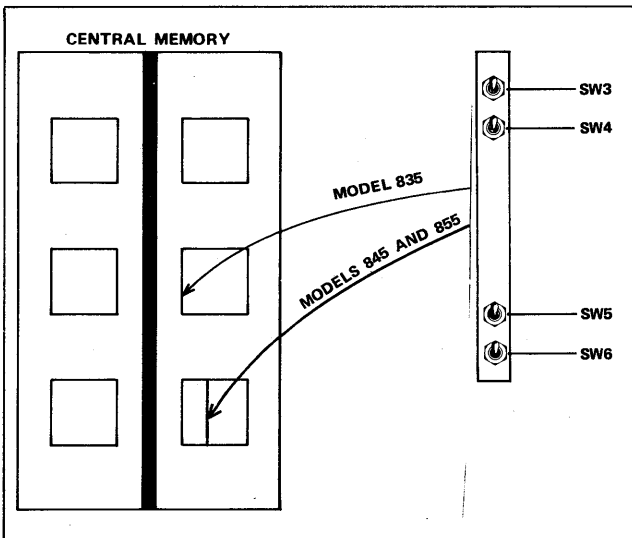

Figure 2-15. CM Configuration Switches
The central memory (CM) contains four three-position configuration switches (figure 2-15). These switches (SW3 through SW6) are located along the edge of a printed-circuit board in the right center section (model 835) or right lower section (models 845 and 855) of the CM. The switches are used to eliminate CM sections with malfunctions. When a switch is centered, normal addressing takes place. When it is in the up position, the upper half of memory remains operational, while the lower half becomes unavailable. Similarly, when a switch is in the down position, the lower half remains operational, while the upper half becomes unavailable. Refer to table 2-12.